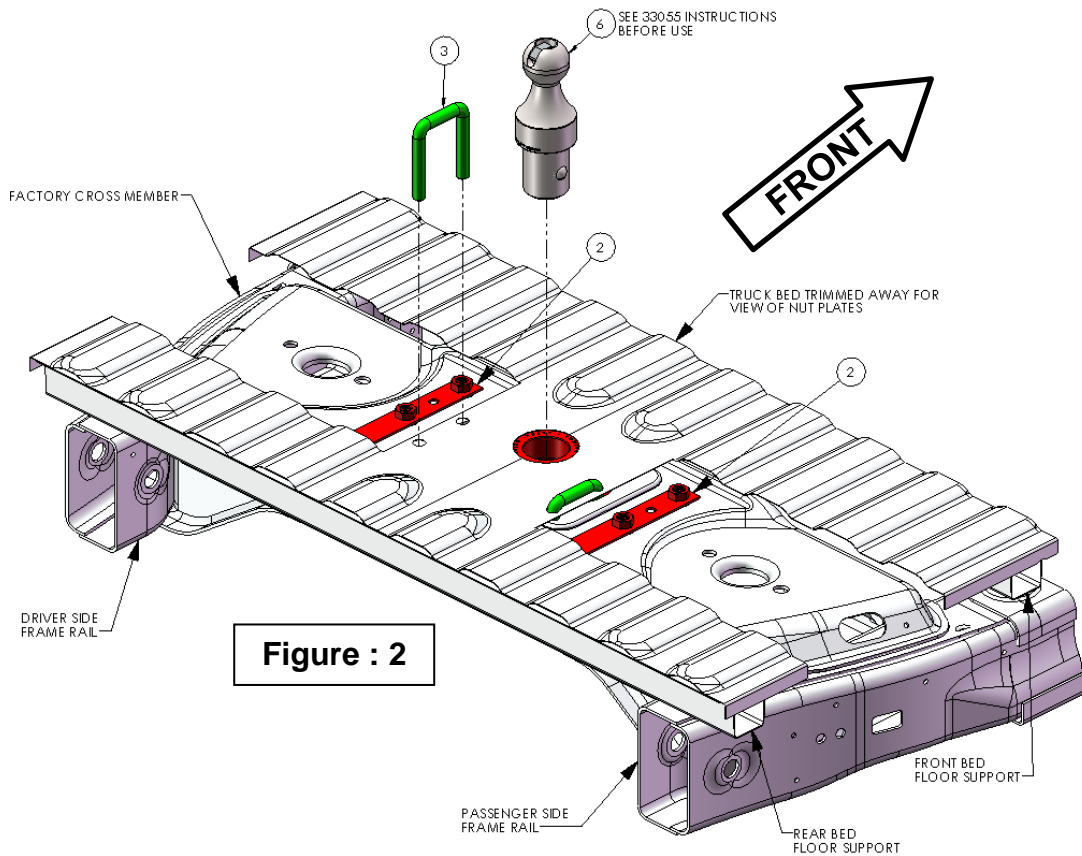

Figure : 2
- Slide one nut plate (#2) in from the bottom of the truck to on top of the crossmember. Align the nut plates (#2) bolt holes from bottom of truck with holes in the factory crossmember. (See Figure 2). **Note: Before the nut plate (#2) install, run flanged head bolts (#8) into nut plates (#2) to ensure clean threading.**